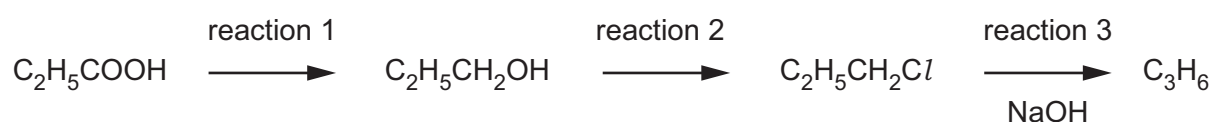

Fig. 4.1
- 4 Fig. 4.1 shows a possible synthesis of propene, C_3H_6 .
4 Fig. 4.1 shows a possible synthesis of propene, C_3H_6 .**Fig. 4.1**